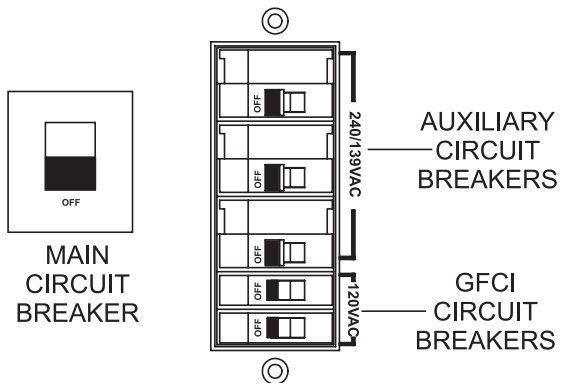

Figure 56. Main, Aux. and GFCI Circuit Breakers (OFF)
1. Place both the **MAIN, GFCI and LOAD** circuit breakers as shown in Figure 56 to the **OFF** position.